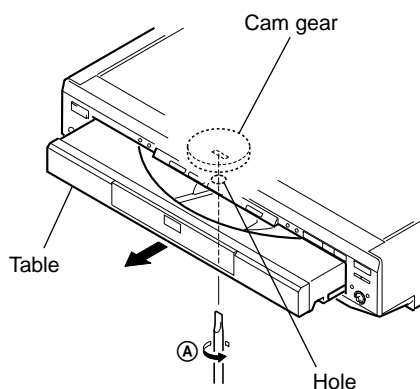

Fig. 2
- 1) Insert a flat-blade screwdriver into a hole at the bottom, and rotate the cam gear in the direction of arrow (A). (See Fig. 2)